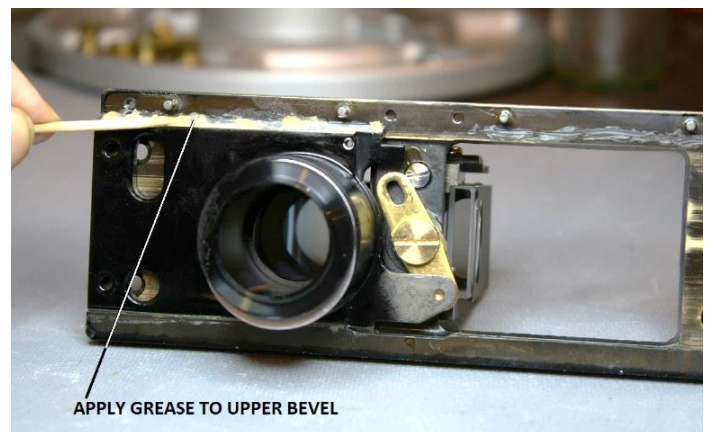

Figure 96 – Apply grease to the upper bevel (left)
Apply a light coating of a suitable grease (item 5 of Appendix 1) to the upper bevel of the left-hand ocular slide (see Figure 96).